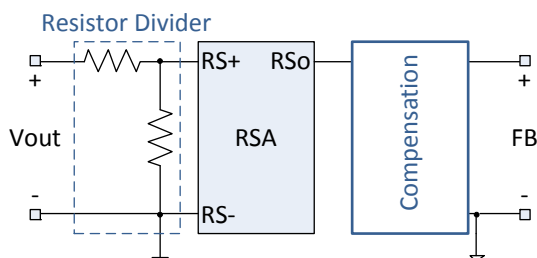

Figure 12: General Remote Sense Configuration
There are two remote sense configurations that are usually implemented. Figure 12 shows a general remote sense (RS) configuration. This configuration allows the RSA to monitor output voltages above VCC. A resistor divider is placed in between the output and the RSA to provide a lower input voltage to the RSA inputs. Typically, the resistor divider is calculated to provide VREF (0.6V) across the RSA inputs which is then outputted to RSo. The input impedance of the RSA is 63 KOhms typically and should be accounted for when determining values for the resistor divider. To account for the input impedance, assume a 63 KOhm resistor in parallel to the lower resistor in the divider network. The compensation is then designed for 0.6V to match the RSo value.